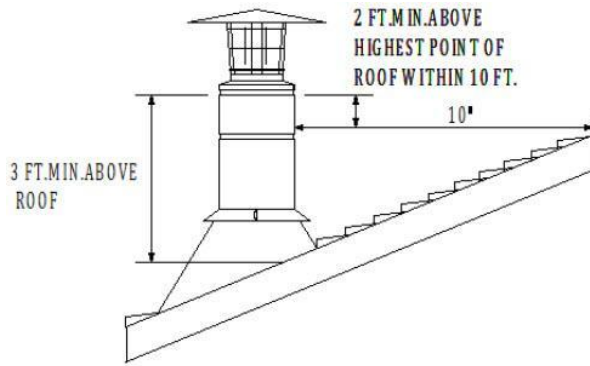
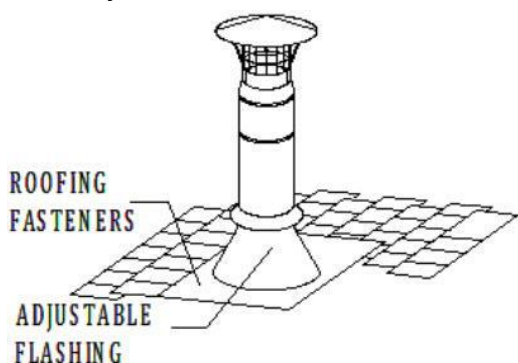
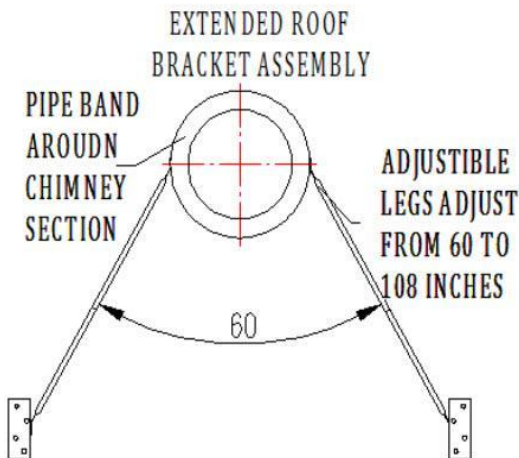

Fig.1
Fig 10
Fig 13
The National Fire Protection Association Standard #211 states: "Chimneys shall extend at least three feet above the highest point where it passes through the roof of a building, and at least two feet higher than any portion of a building within ten feet." (Fig 1). If the chimney extends more than 5 feet above the roof, a Roof Brace must be used (see page 11). Due to the overlap of joints, subtract 1- $\frac{1}{8}$ inch from each Chimney Section's height to calculate installed height.
10. **Finish Top:** Apply a high-temperature (500°F), non-hardening waterproof sealant around the chimney at the point where the Storm Collar will meet the chimney just above the Roof Flashing, and also along the vertical seam of the chimney pipe, which is exposed to the weather (Fig 10 & 11). Slide the Storm Collar down over the chimney to the top of the Roof Flashing. Tighten and seal the Storm Collar against the sealant. After installing sufficient Chimney Sections to meet the height requirement (Fig 1), attach the Chimney Cap on top of the chimney by holding the collar of the cap and twist locking it clockwise onto the chimney. Do not hold the upper portion of the cap and twist, as this may damage the cap. The Chimney Cap can be removed for chimney cleaning as described in the Chimney Maintenance section of the instructions. Use an Extended Roof Brace if the chimney extends more than 5 feet above the roof (Fig 13 & 14 on pg 14).
2. **Attach the Legs:** The Adjustable Legs of the assembly will adjust from 65" to 130". Secure one end of the Legs to the Pipe Band using the nuts and bolts included (1 per leg). Position the Adjustable legs so they form approximately a 60° angle with the chimney, and with each other (Fig 13 & 14). Be sure that there is at least 3" of overlap between the top and bottom halves of the Adjustable Leg. In order to secure Legs in proper position, there is a hole